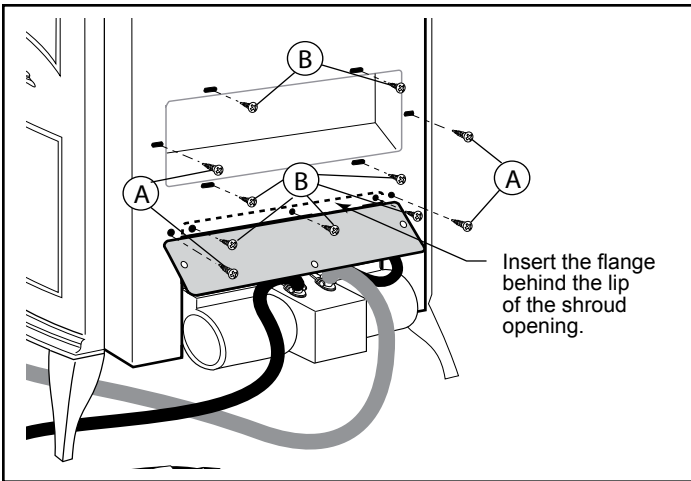

**Figure 56** - Attach the snapstat and fan assembly to the rear shroud.
3. Insert one end of the snapstat into the seam at the lower shroud and secure it with one #10 x 1/2" sheet-metal screw from the parts bag. (A, Figure 56) Use another sheet metal screw to fasten the shroud at the adjacent hole. (B, Figure 56) Fasten the blower assembly to the studs with the two hex nuts previously removed and one of the star washers from the Fan Kit parts bag. (C, Figure 56)